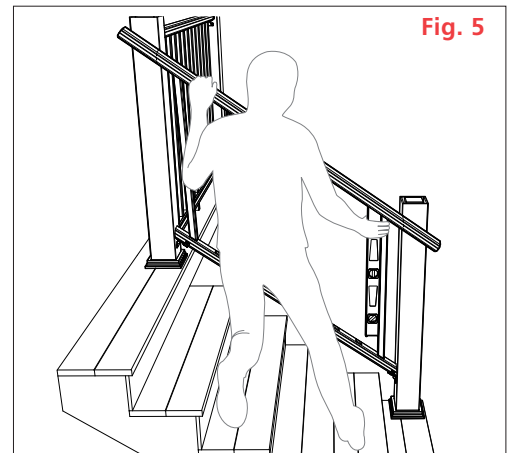

Fig. 5
- 7 Insert bottom rail into the bottom rail brackets, making sure the rail is level. Secure the bottom rail in place by installing two self-drilling 1" screws provided in the Marquee Straight Bracket Kit on each side of the brackets. **(Fig. 5)**
- 6 Insert a baluster into the first and last pre-routed holes of the bottom rail, making sure each one is fully nested. Align the top rail over the balusters and install into the pre-routed holes, with the notched end of the rail at the upper end of the stair section. The rail should extend past the post sleeves on each side. Use a level on the balusters to ensure they are vertical. (Fig. 5) Mark both ends of the rail where they cross the post sleeve.
- 13** Install the two guide blocks onto the post mount member **(Fig. 5)**. Position the lower guide block at the bottom of the post and secure in place by installing one of the supplied self-drilling screws through the center of the guide block and into the post until firmly seated. Position the upper guide block so that the top of the guide block is 1" above the top of the post member and secure in place by installing one of the supplied self-drilling screws through the center of the guide block and into the post until firmly seated.